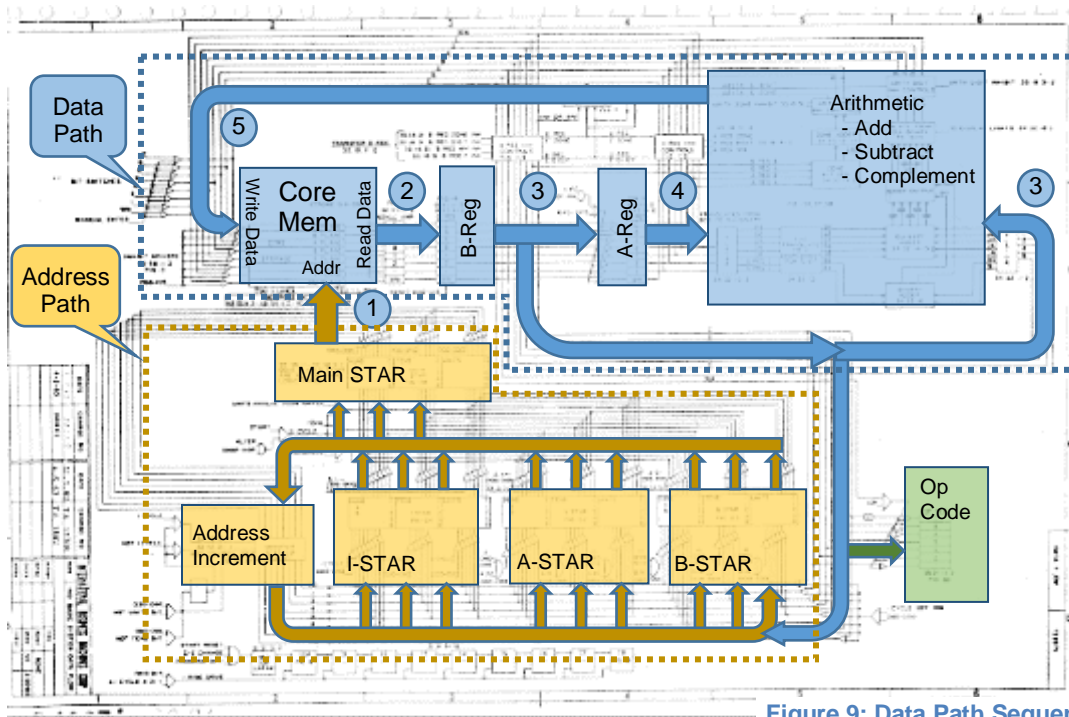
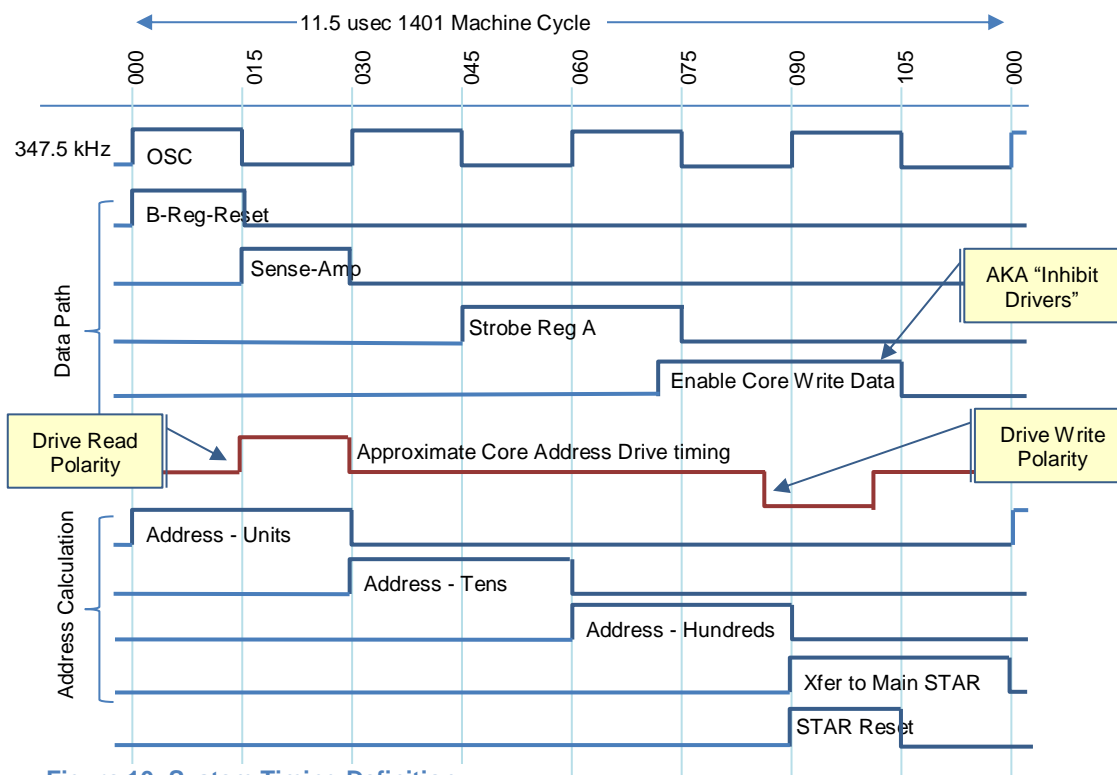

Figure 9: Data Path Sequencing
Figure 10: System Timing Definition
- A memory read and write to a single address, specified by the Main STAR (See Figure 3, Figure 9)
Figure 9 below shows the flow of data through the pipeline; Figure 10 gives approximate timing.